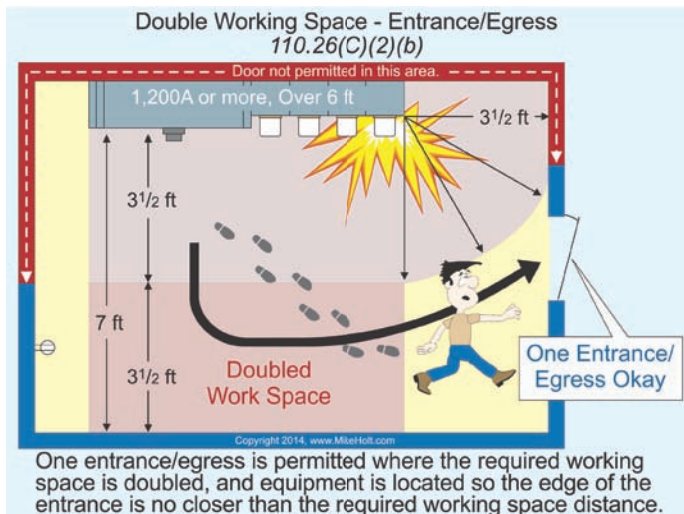

Figure 110-22
**(b) Double Workspace.** Only one entrance is required where the required working space depth is doubled, and the equipment is located so the edge of the entrance is no closer than the required working space distance. **Figure 110-22**